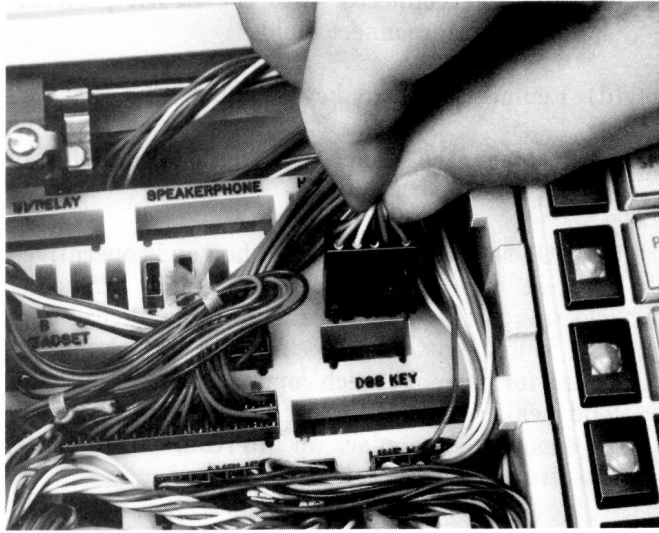

Fig. 51—Unplugging a Component Connector From Interconnect Field
5.21 All replaceable components of the 980-series telephone sets have leads terminated in 963-type connectors for plugging into the interconnect field. To disconnect one of the components from the interconnect field, grasp all the wires just above the connector at the cord tie (Fig. 51) and pull straight out. (It is difficult to grasp the jack itself; the wires are attached to it in such a way that